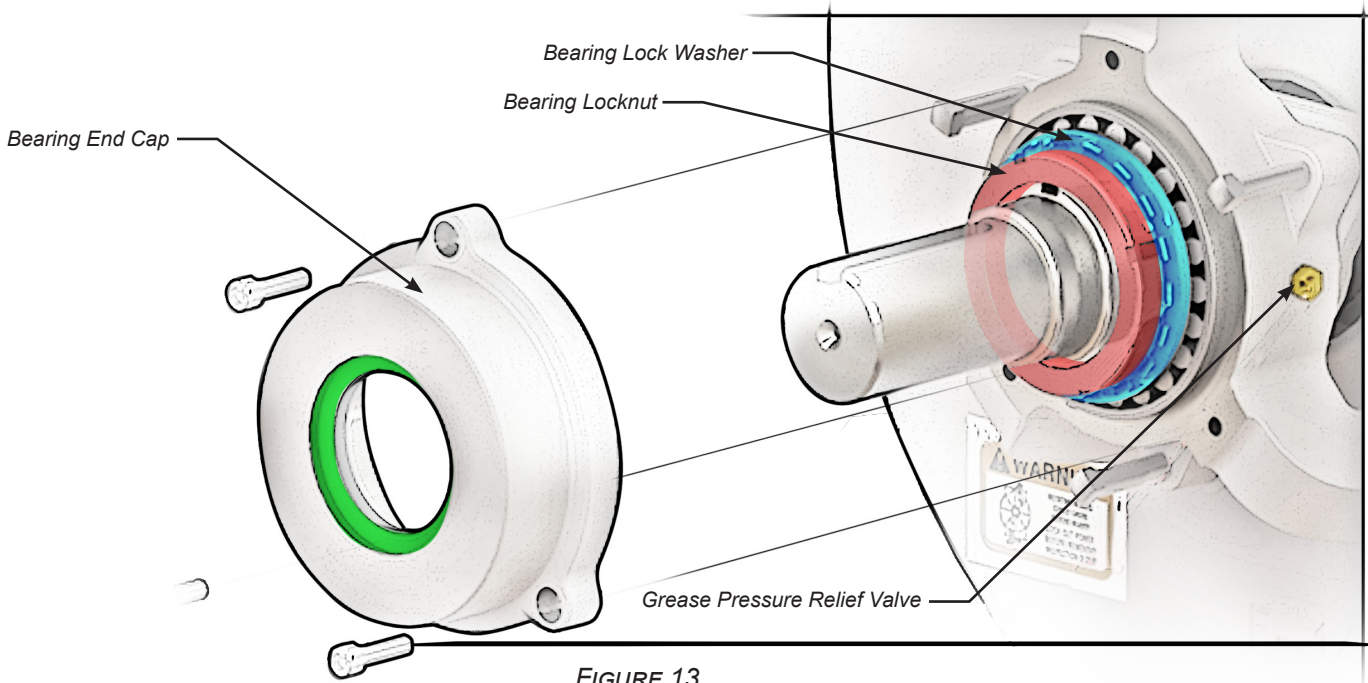

FIGURE 13
9. Remove both bearing endcaps from bearing supports as shown (Figure 13).
11. Straighten the bearing lock washer tab engaged with bearing lock nut on each side as shown (Figure 13).
12. Using a spanner wrench, loosen one bearing lock nut while tightening the other. To increase the clearance between the rotor and near side end plate, loosen (CCW) the bearing lock nut on the near side while tightening the lock nut on the opposite side. To decrease the clearance between the rotor and near side endplate, tighten (CW) the lock nut on the near side while loosening the lock nut on the opposite side.
6. Remove bearing end cap (Figure 13).
7. Straighten the bearing lock washer tab engaged with bearing locknut as shown (Figure 13).
8. Remove the bearing lock nut using a spanner wrench (Figure 13).
5. Remove bearing end cap (Figure 13).